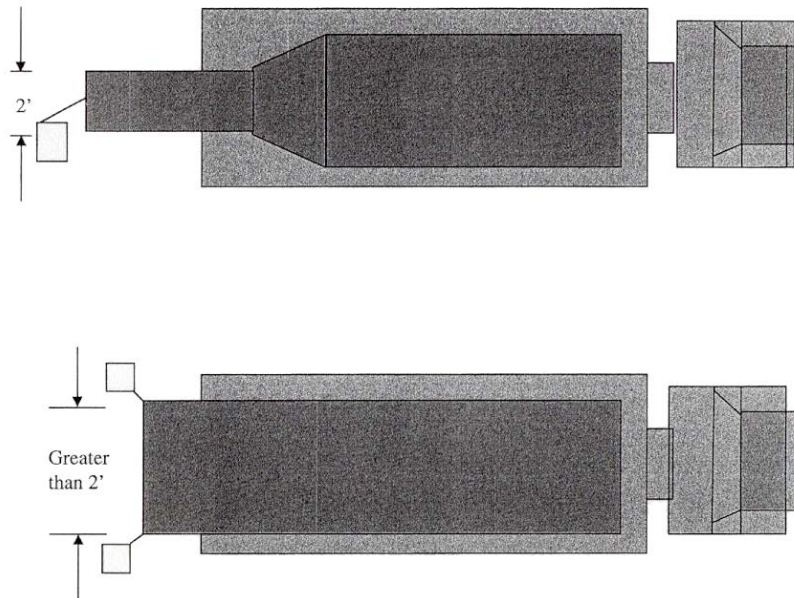

Figure 4.2: Warning Flags on Overlength Loads or Loads With a Rear-End Overhang
4.6.2.3 Flags are also required on vehicles and loads which exceed legal length or which have a rear overhang in excess of four (4) feet. There shall be a single flag at the extreme rear if the over length or projecting portion is two (2) feet wide or less. Two (2) flags are required if the over length or projecting portion is wider than two (2) feet and shall be located to indicate maximum width. (See Figure 4.2)